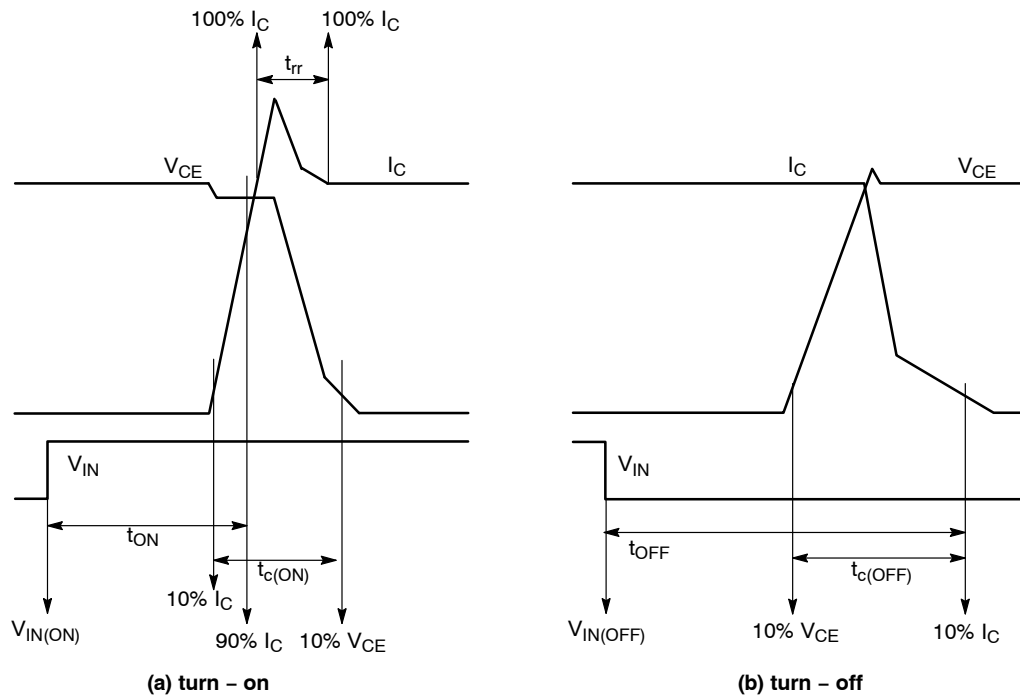

Figure 4. Switching Time Definition
6. t_{ON} and t_{OFF} include the propagation delay time of the internal drive IC. t_{C(ON)} and t_{C(OFF)} are the switching time of IGBT itself under the given gate-driving condition internally. For the detailed information see Figure 4.